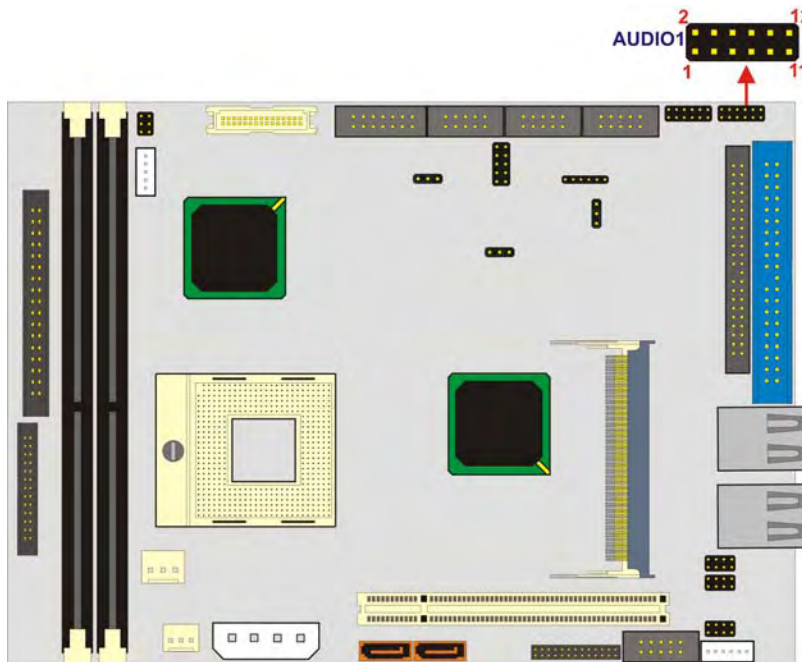

Figure 3-5: Audio Connector Location
- CN Location:** See Figure 3-5